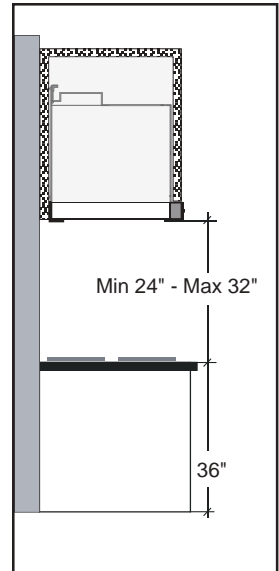

Fig.1
2. Position template B on the wall cabinet, bearing in mind the measurements indicated in Figs 1 and 2 and the minimum distance from the cooktop.
- 1 - Check the measurements indicated in Figs 1 and 2 and the minimum distance from the cooktop, before installing the hood on the support shelf.